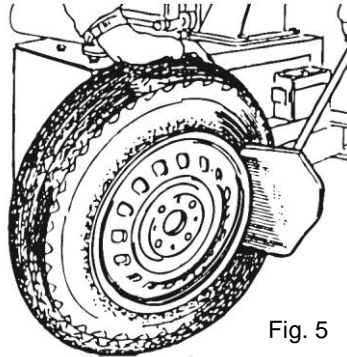

Fig. 5
- Open the arm with the lever by hand and roll the wheel in up to the desired point. Press the rim against the rubber support on the machine, and place the shoe (Fig. 5) 10mm away from the rim.